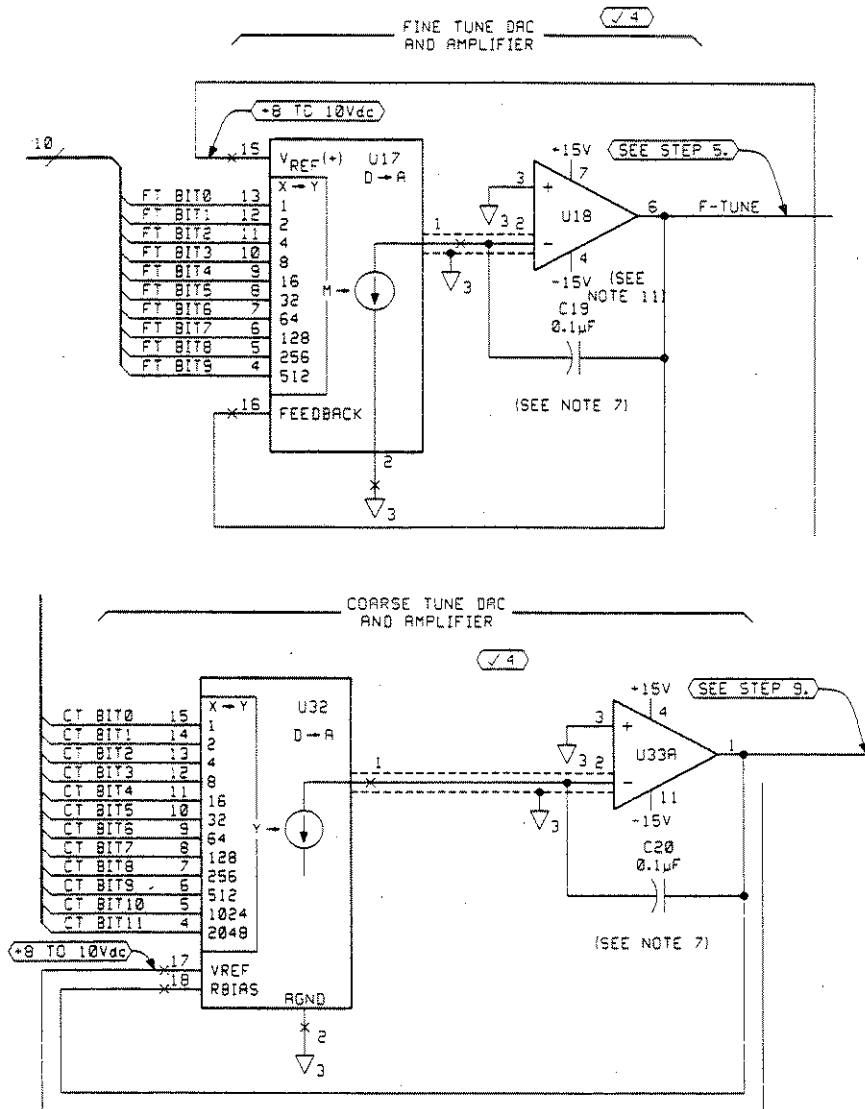

Figure 8-43. Fine Tune DAC and Coarse Tune DAC Voltages
- Measure the reference voltage ( $V_{ref}$ ) at A13U17 pin 15 to A13TP8 (1ST LO GND). See Figure 8-43.  $V_{ref}$  should be between 8 and 10 Vdc. For three settings, full scale, half scale and zero, the DAC voltage is shown in
8. Note the reference voltage (Vref) at A13U32 pin 17 (8 to 10 Vdc). See Figure 8-43. For three settings, full scale, half scale and zero, the DAC voltages are shown in Table 8-40 as they relate to Vref. Using the procedure in step 9, check the three settings of the Coarse Tune DAC.